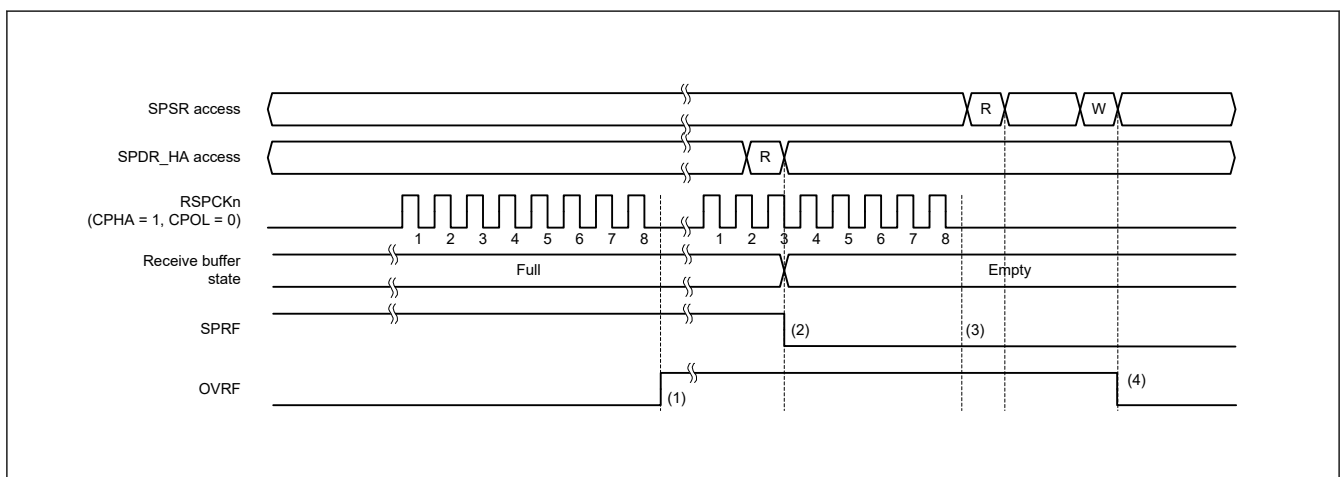

Figure 28.28 Operation example of the OVRF and SPRF flags
Figure 28.28 shows an example of operation of the OVRF and SPRF flags. The SPSR and SPDR_HA accesses shown in Figure 28.28 indicate the condition of accesses to the SPSR and SPDR_HA register, where W denotes a write cycle, and R a read cycle. In this example, the SPI performs an 8-bit serial transfer when SPCMD0.CPHA bit is 1 and the SPCMD0.CPOL bit is 0. The numbers given for RSPCK_n in the waveform represent the number of RSPCK cycles, such as the number of transferred bits.
The operation of the flags at timings (1) to (4) in Figure 28.28 is as follows: